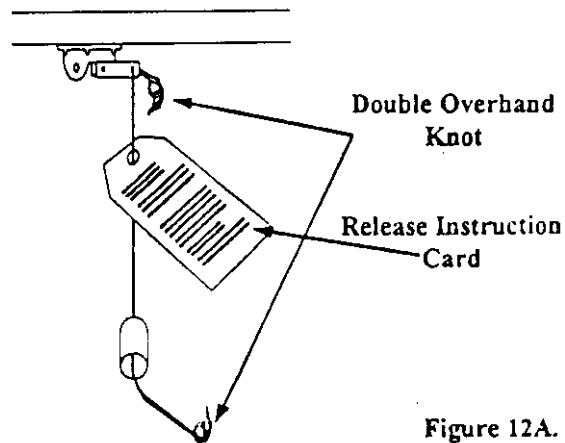

Figure 12A.
Step 7. Tie a double overhand knot in one end of the Emergency Release Rope and slip the other end through the Red Release Knob, the Release Instruction Card and the hole at the end of the Release Lever on the Trolley. (Please take time now to read and familiarize yourself with the instructions on the Emergency Release Label) fig. 12A. Tie a second double overhead knot in the free end, adjusting the Rope so that the Red Knob is 6 FT. above the floor. If the Rope must be cut, flame seal the cut end with a match or lighter to prevent fraying or unraveling.